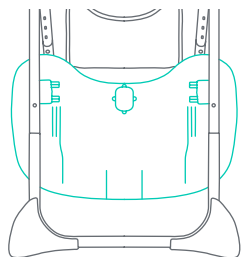

Fig. 11b
- The Tray may be stored on the back legs of the High Chair. Align the holes in the rear of the tray with the small pegs on the back legs (Fig. 11b).